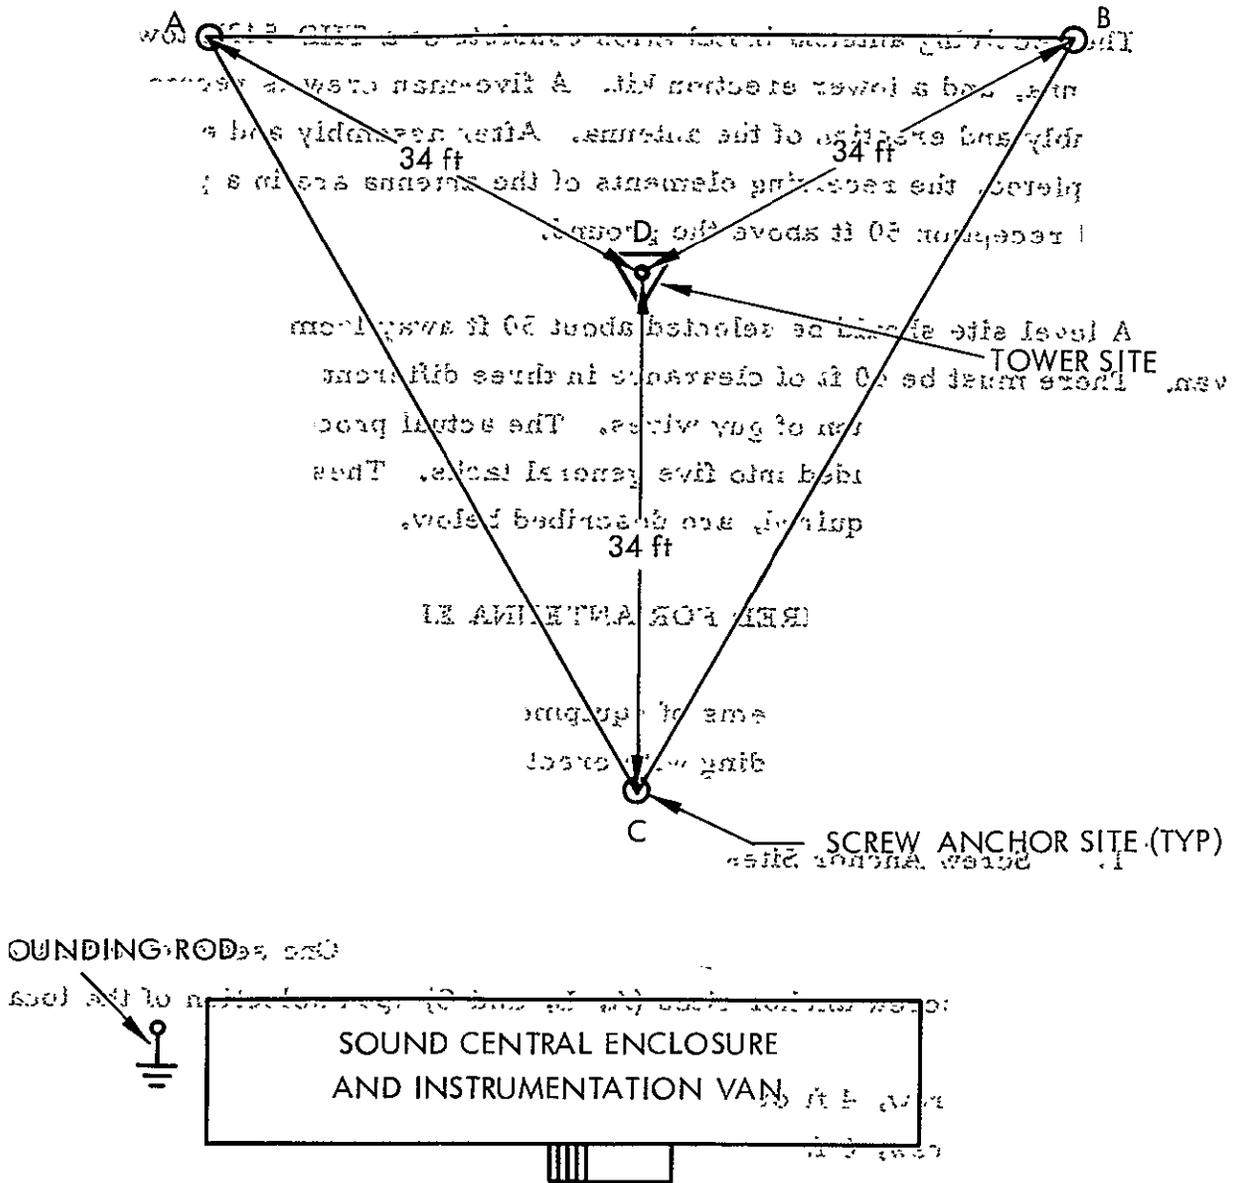

Fig. 1. Selection and marking of site for receiving antenna
Unpack the following items of equipment and place them in designated areas (Fig. 1) before proceeding with erection.
- 1) At approximately 50 ft from the instrumentation van (Fig. 1), mark a level site for the erection of the tower.